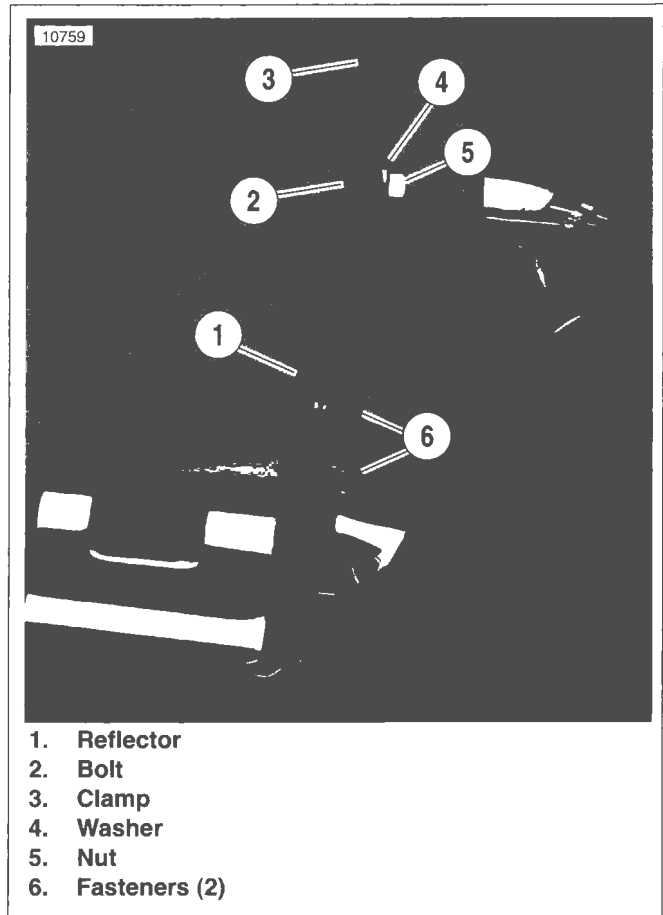

Figure 8-45. License Plate Bracket
2. See Figure 8-45. Remove reflector (1). Remove license plate bracket fasteners (6).
3. Remove bolt (2), washer (4) and nut (5) securing clamp to license plate bracket.
15. See Figure 8-45. Place license plate bracket in place on tail lamp. Install but do not tighten license plate bracket fasteners (6). Install clamp (3). Install bolt (2), washer (4) and nut (5).